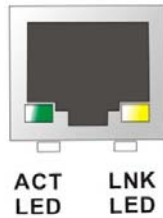

Figure 4-30: CN27 Connector
- CN Pinouts:** See **Table 4-32** and **Figure 4-30**